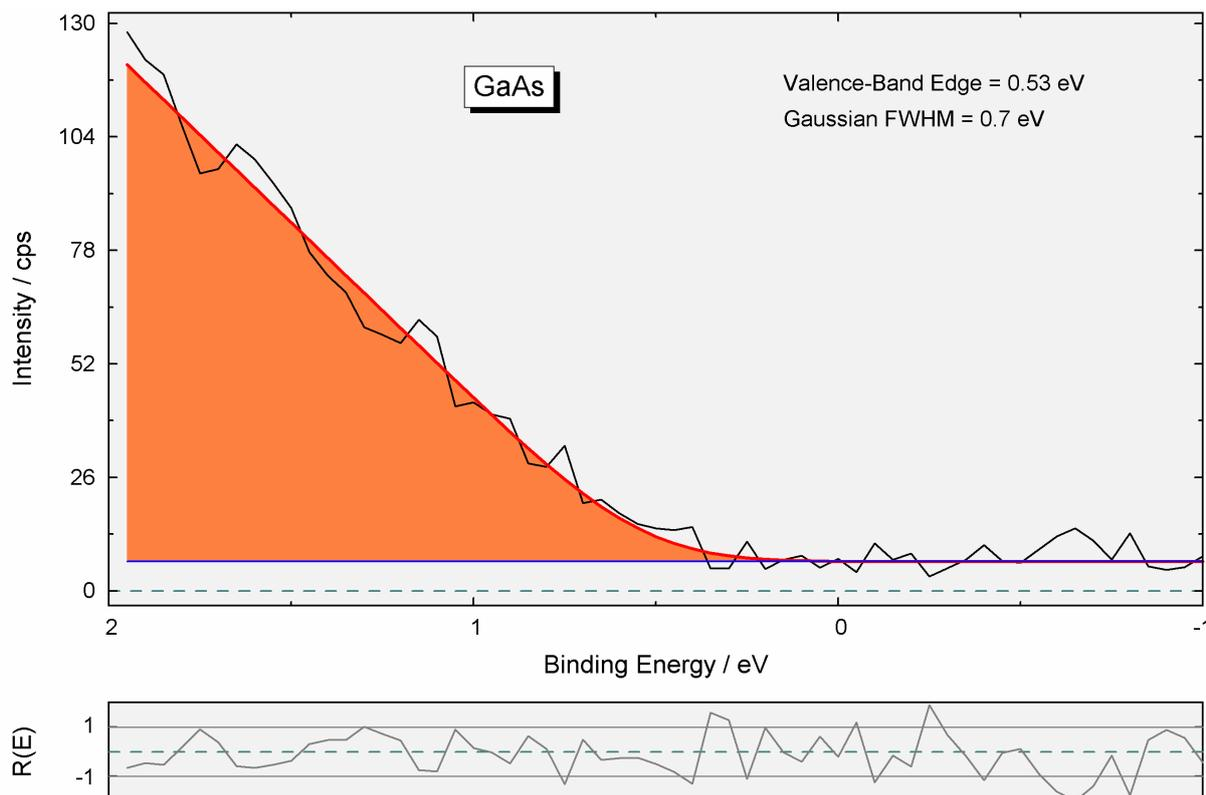

**Fig. 4.** Hot shot of the dialog 'Parameters Tougaard-Cross Section', the parameters V, G, and I are fixed, the F-parameter is fitted parallel to the peak fit
- x) introduction of variable cross sections into the Tougaard-background calculation (Figure 4),
combines the Two-parameter cross section and the Three-parameter cross section (Figure 4). The correctness of the developed program code can be tested by using the new created test function 'Test19-Tougaard-Background.ufp'.